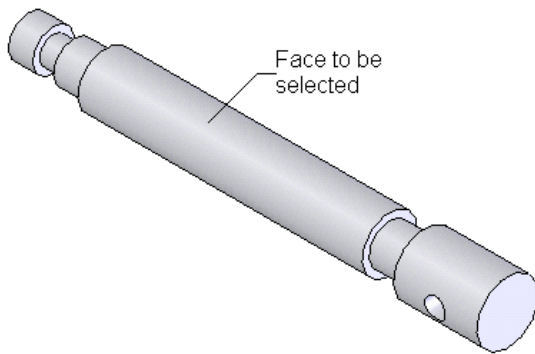

Figure 10-59 Face to be selected
- Drag and drop the jaw screw in the assembly document and apply the required mates, refer to Figures 10-59 through 10-64.
5. Press and hold the ALT key down on the keyboard and then select the face from the location shown in Figure 10-59.